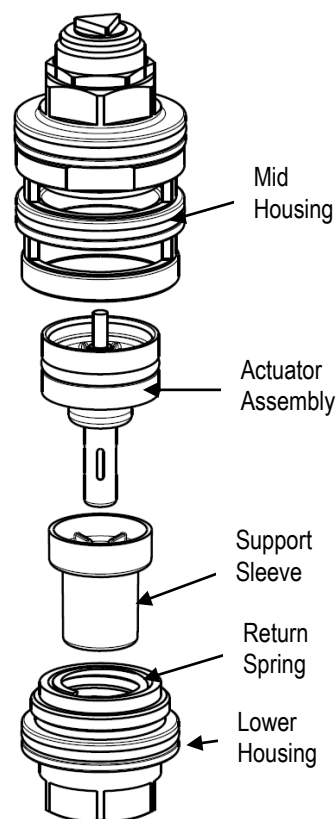

Figure 7: Replacing the Actuator Assembly (Element, Piston and O-ring): Thermostatic Cartridge Assembly
2. Carefully disassemble the Cartridge Body (Figure 7). Unscrew Lower Housing from the Mid Housing. Securely hold Mid Housing with a 35 A/F spanner. Use a 22 A/F spanner to unscrew Lower Housing. Ensure the Return spring and Support Sleeve remain within the Lower Housing.